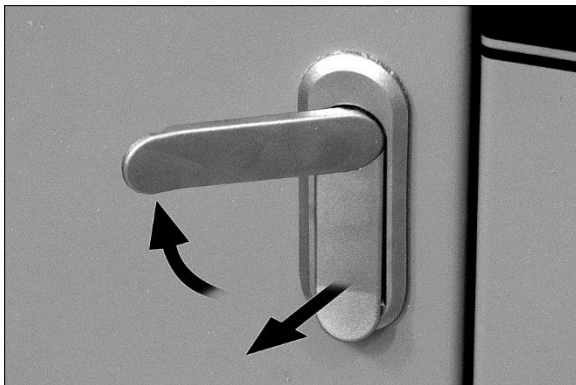

Figure 15
Open cabinet by pulling latch outward and rotating left, as shown in Figure 15.
Rotate conveyor speed dial (C, Figure 15) clockwise to start and increase speed of conveyor. – Racetrack (G) will illuminate and run. Conveyor speed will show inside racetrack.